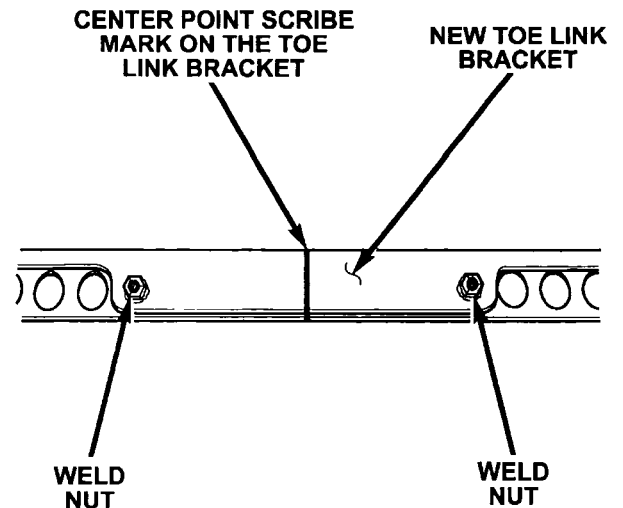

Figure 35
12. Locate the center point between the two weld nuts on the new toe link bracket. Place a scribe mark at that point (Figure 35).